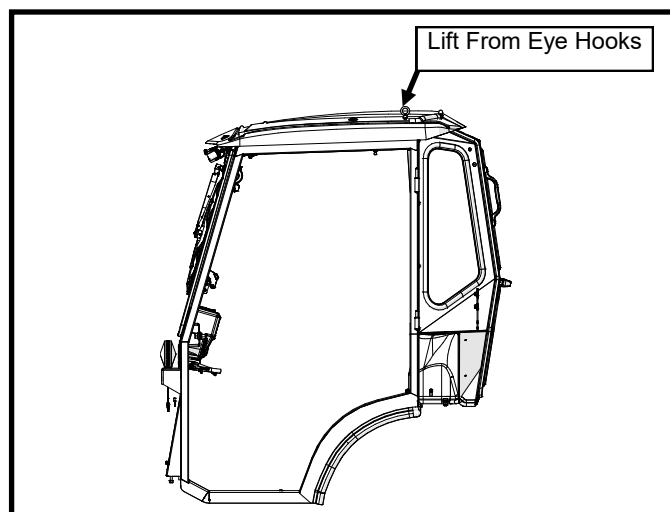

Figure 26: Remove Doors and Lift Cab
25. Remove the bolts securing the cab to the shipping pallet: (1) bolt in each floorboard, (2) bolts in each front leg, (4) bolts in the rear panel, and (2) bolts in the lower rear seat bracket.
26. Lift the cab by the eye hooks in the roof as shown in figure 26. The cab will tip slightly forward as it's lifted via the rings. Suspend the cab in the air temporarily for step 27.